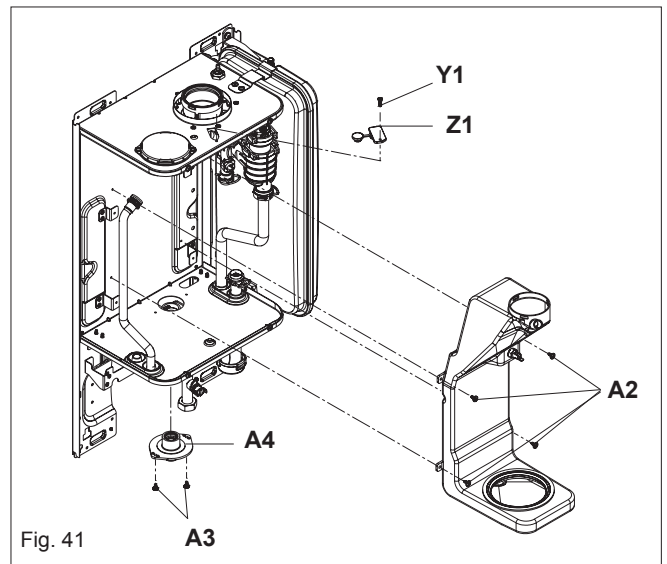

Fig. 41
6.21 FLUE COLLECTOR REMOVAL (fig. 41)
Set the flue gas analyser to read CO₂ and insert the probe into the flue analysis test point (Y1-Z1 fig. 41).
- Insert the flue gas analyser probe into the flue gas test point (see fig. 41).